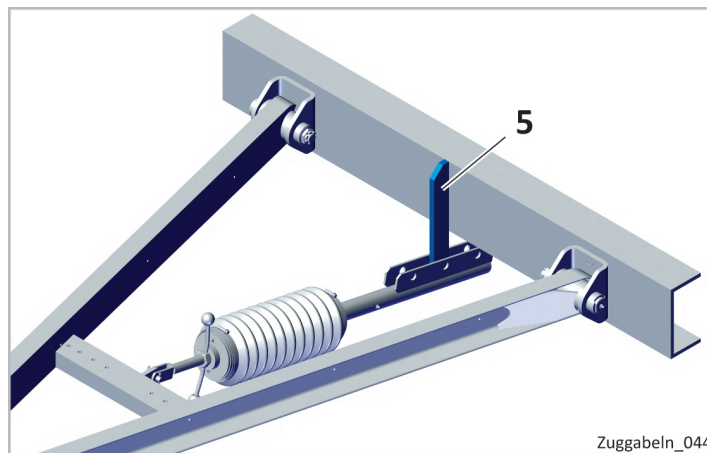

Figure 19: Fastening element for type GHD height adjustment system
- ▶ Weld the fastening element (5) to the bogie to form a fastening point, see Fig. 19.